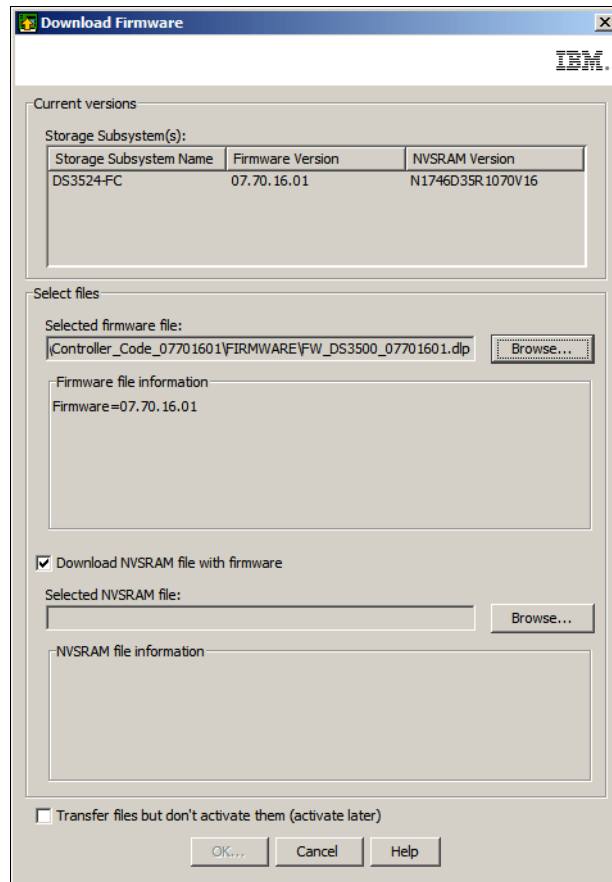

Figure 14-41 Select firmware file
- a. In the **Selected firmware file** pane, click the **Browse** button and select the firmware upgrade file as shown in Figure 14-41 on page 359.